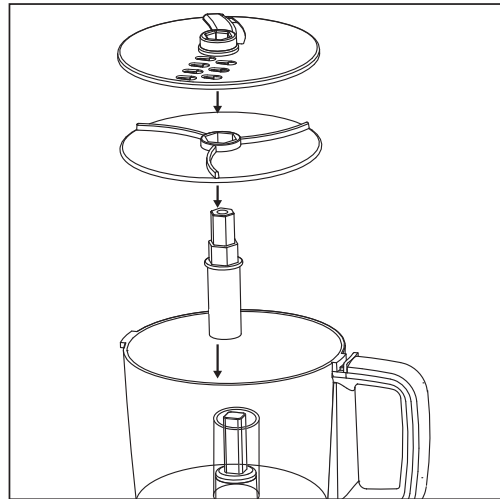

Figure 8
- 2 Slide the disc stem onto the center post of the base. Slide the discharge disc over the disc stem. With the desired side facing up (slicing or shredding), push the slice/shred disc onto discharge disc (Figure 8). Use caution when handling, blades are extremely sharp.